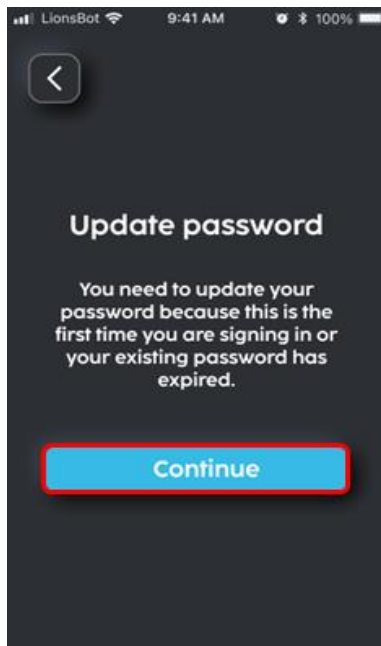

FIGURE 7-5
3. Click on 'Continue' on the update password page (Fig.7-5).